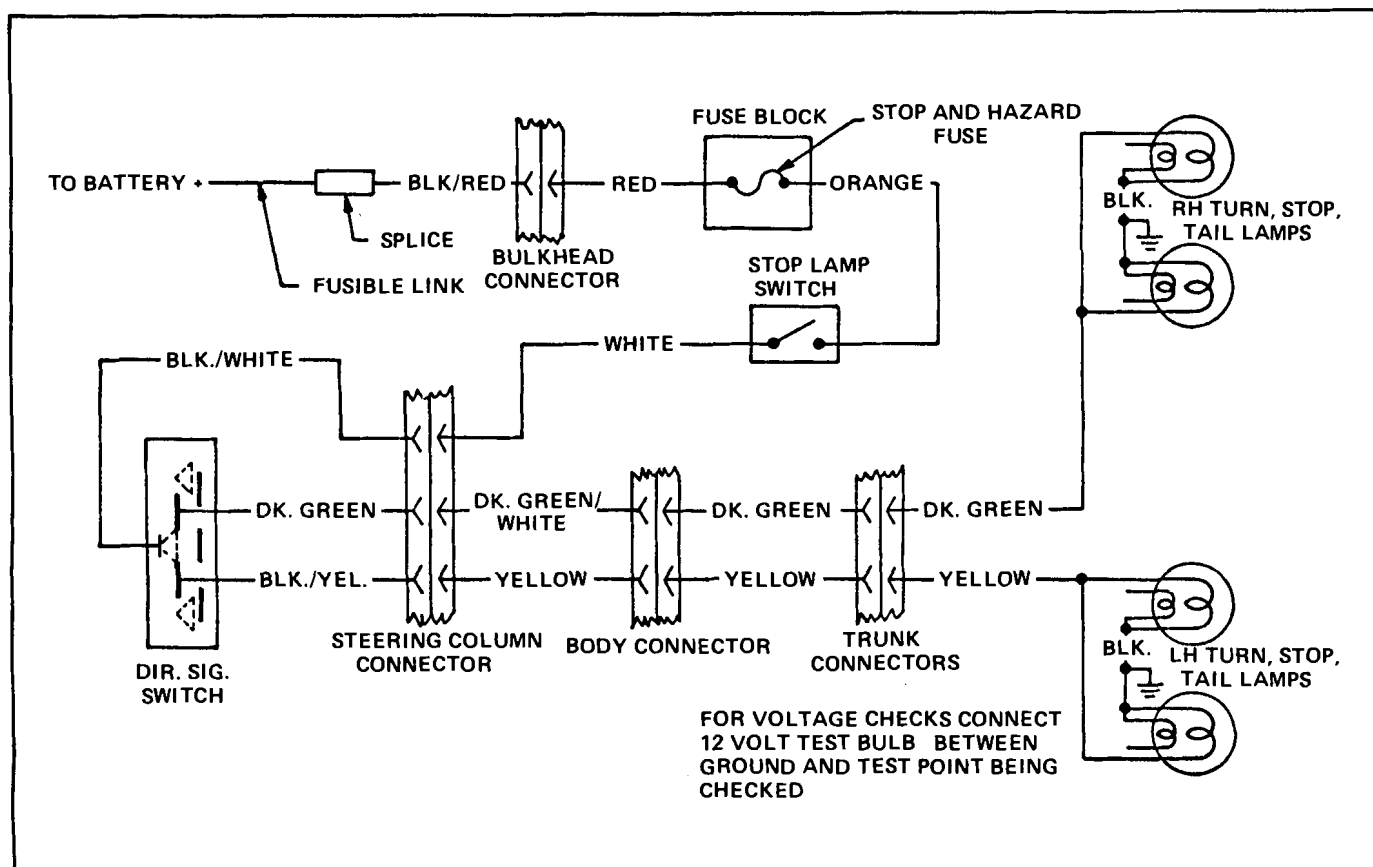

Fig. 12-23 Stop Lamp Circuit
*See stop lamp circuit (Fig. 12-23).